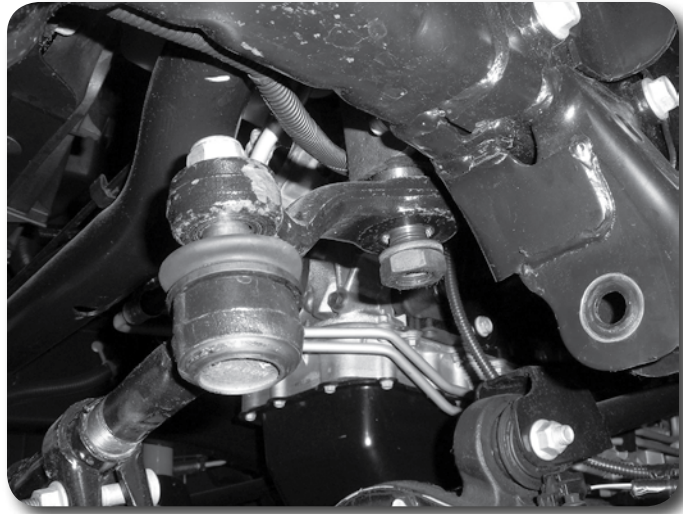

Figure 3
5. Disconnect the steering drag link from the pitman arm. Remove the tie rod end nut. Strike the end of the pitman arm near the tie rod end to dislodge the taper and remove the end from the pitman arm. Take care not to strike the tie rod end. Save tie rod end nut. **Figure 3**
6. Make note of the orientation of the pitman arm on the steering box. Remove the pitman arm nut and washer. Using an appropriate pitman arm puller, remove the pitman arm from the steering box sector shaft. **Figure 3**